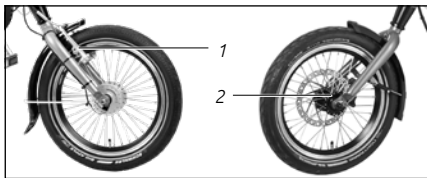
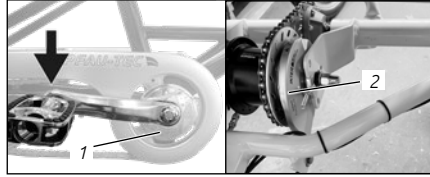

Fig.:39
Fig.:40
- Refer to the illustrations (“Fig.:39”, “Fig.:40”) to determine which brakes are fitted to your bicycle/tricycle and check your bicycle logbook (see “32. Bicycle logbook” on page 81).